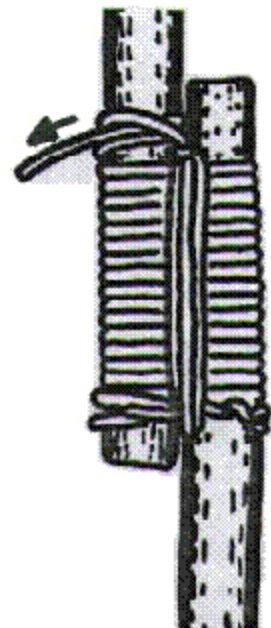

FIGURE 12
3. Now make two (2) FRAPPINGS between the SPARS and finish off with a CLOVE HITCH (see FIGURE 12).